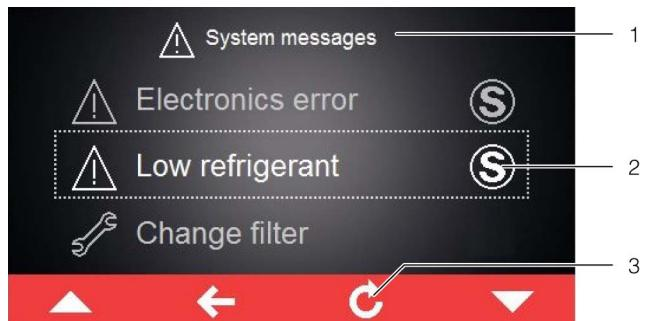

Fig. 28: Screen showing error messages
sage and in the control bar next to the symbol for system messages (fig. 28, item 2).